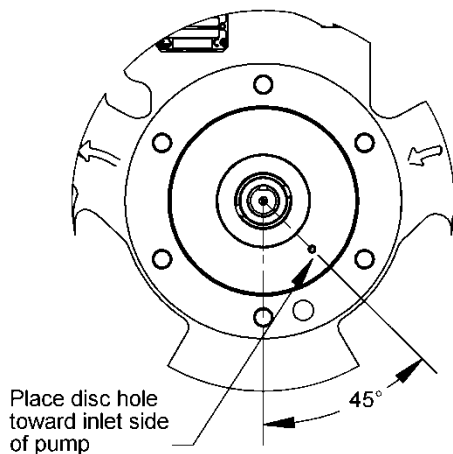

Figure 8. Disc Installation
5. Place the inboard disc (71) against the liner (41) on the inboard side of pump with the seal cavity outward and disc relief hole located as shown in Figure 8.
20. Install disc (71) on the outboard side of the pump with the seal cavity facing outward and the disc relief hole towards the inlet side. Refer to Figure 8.
21. If used, install seal spacer ring (159) on shaft with outward tangs of spacer ring engaged with drive holes in rotor.
23. Apply a small amount of grease to the shaft and the inner ring of the bearing (24).
26. Install outer race of bearing (24), grease seal (104A) and stationary seat (153A) into outboard head according to steps 8 and 10 above.
27. Install new head O-ring (72) into O-ring groove in outboard head (23).
28. Apply a small amount of grease to the shaft and the inner ring of the bearing (24).
29. Carefully install the outboard head assembly (23) over the shaft. Do not contact the end of the shaft with the polished face of the stationary seat. Center the head on the pump casing (12). Install and uniformly tighten all six head capscrews (21) and torque per Torque Table 1.
30. Turn the pump casing around and remove the inboard head (20) previously installed.